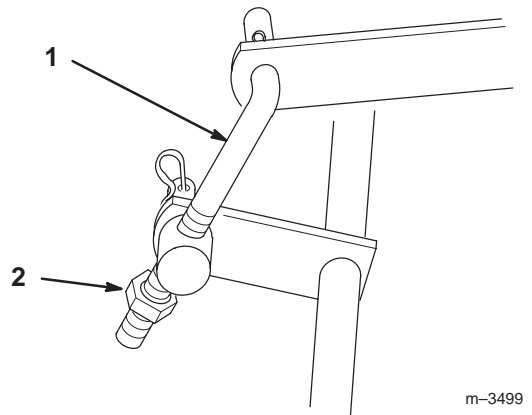

Figure 11
5. To adjust front-to rear blade slope turn locknut on rear adjustable link (Fig. 11).